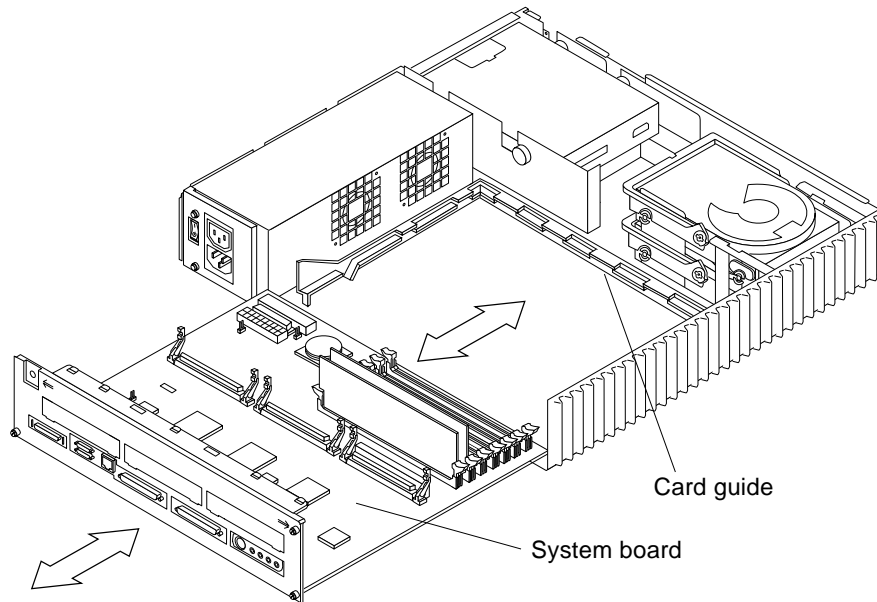

FIGURE 9-15 Removing the System Board
- 6. Pull the board out of the back of the chassis until it clears the plastic card guide. Place the board on an antistatic surface. See FIGURE 9-15.**